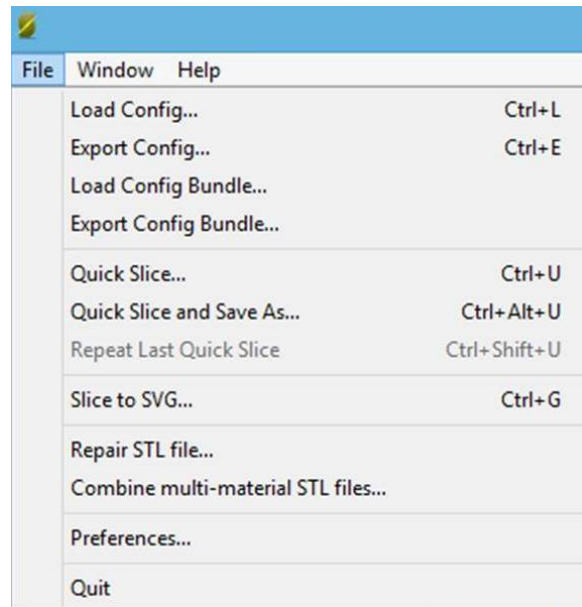

Figure 3.4: Loading a configuration file in Slic3r
- In the Slic3r program window, click “File → Load Configure...” (Figure 3.4), and select the downloaded file Artifex2\_PLA.ini.